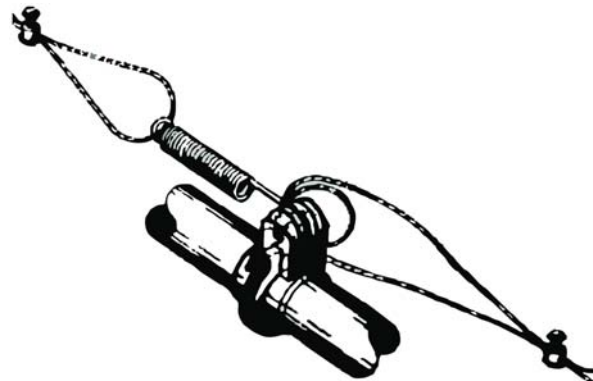

Figure 54. Anti-Roost Cable Mid-Line Connection
9. Attach a spring in the center groove at the second anti-roost bracket and cut the cable at this point. (See **Figure 54.**)
10. Thread the ends of the cable through the end of the spring. Pull the cable tight so that there is 3/4" to 1" [20 to 25 mm] of stretch in the spring. Clamp the cable to form a loop and cut off any excess. (See **Figure 54.**)
11. Attach the cable to the insulator. For best results, make a double loop around the anti-roost insulator in the center groove of the insulator and fasten with a 1/16" cable clamp as shown in **Figure 54.**